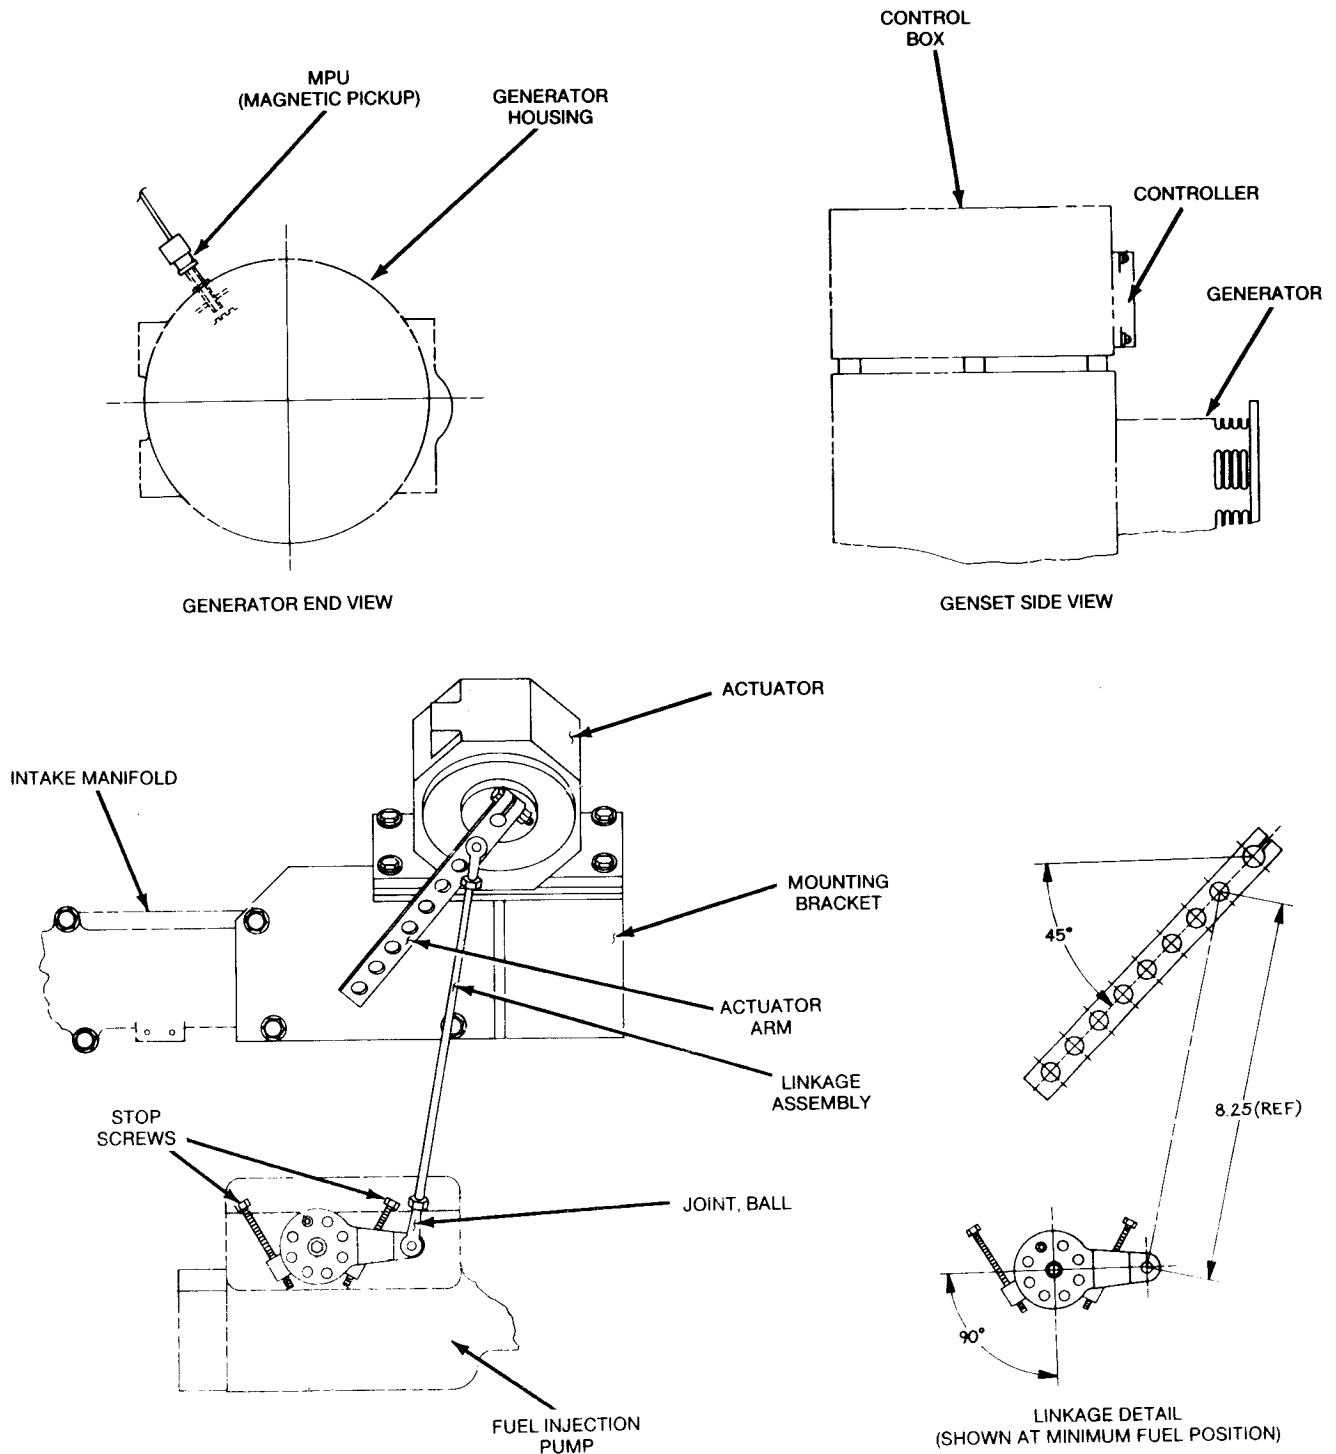
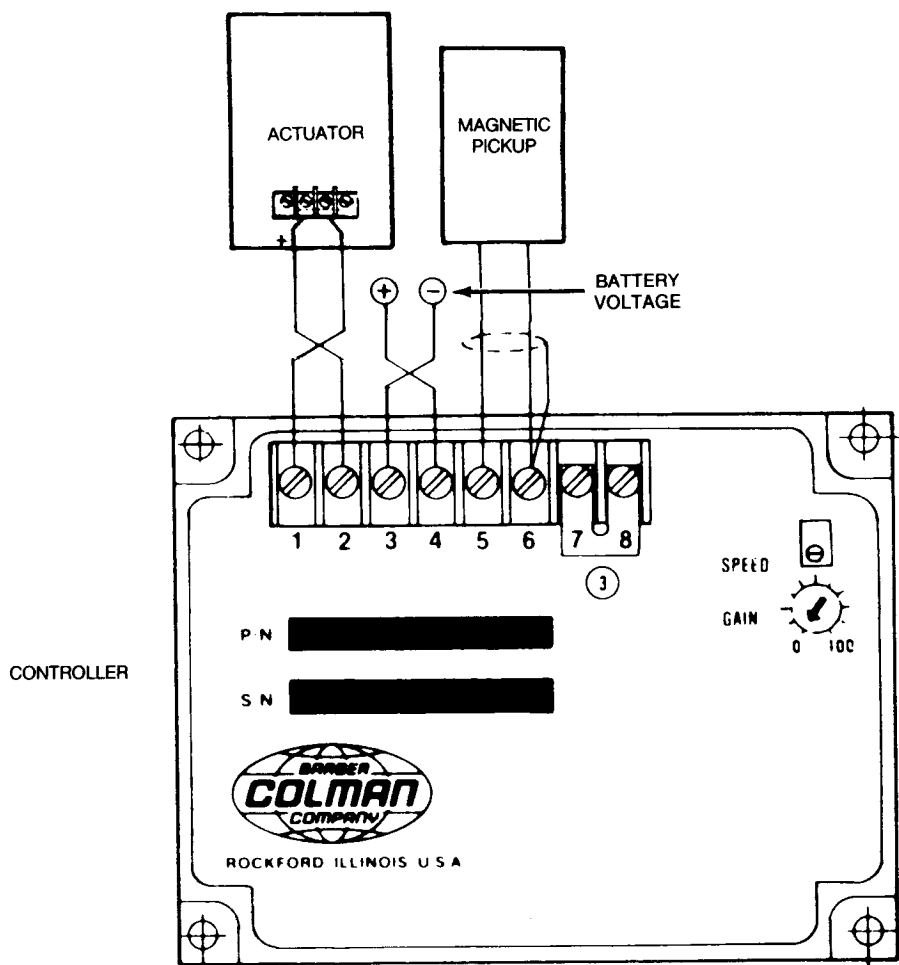

FIGURE 9-14. ELECTRONIC GOVERNOR COMPONENT LOCATION
FIGURE 9-18. GOVERNOR COMPONENT WIRING DIAGRAM
If the genset has the optional electronic governor shown in Figure 9-14, refer to the following sections for troubleshooting and adjustment/calibration procedures.
MPU (Magnetic Pickup): The pickup is threaded into the top of the generator flywheel housing and secured with a lock nut. The flywheel teeth moving past the magnetic face of the MPU generates an AC voltage that is coupled to the Controller. Refer to the wiring diagram in Figure 9-18 for component wire terminations. The following checks will establish a functioning unit:
- Disconnect the Actuator leads and apply battery voltage to the Actuator terminals. Be sure to observe correct polarity as shown in Figure 9-18. The Actuator should go full fuel. If not, replace.
This section contains information on adjusting the optional electronic governor. The adjustments covered are to the stop screws on the injection pump mechanical governor (Figure 9-14), and to the GAIN and SPEED screws on the Controller (Figure 9-18).
1. Check the governor Actuator linkage to see that it does not bind through its full travel. The linkage should be as shown in Figure 9-14.
3. Set the Controller GAIN adjustment (Figure 9-18) to the second mark from zero.